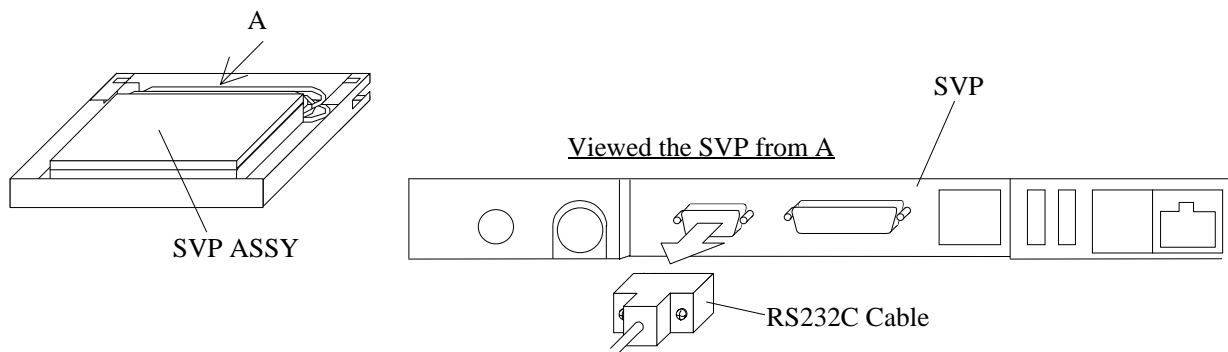

Fig. 3.15-14 Removing and installing RS232C Cable
- a. Attach the SVP and RS232C Cable. (See Fig. 3.15-14.)